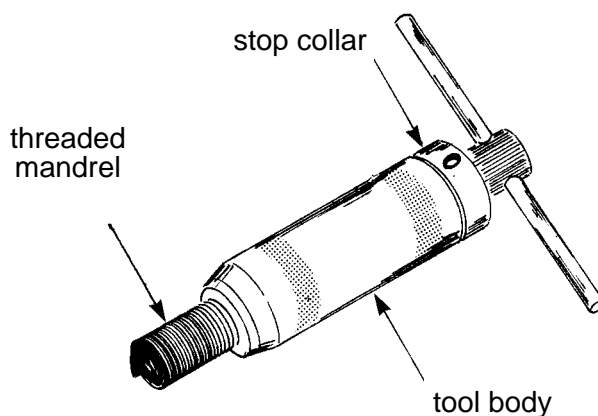

Figure 6 - 535 Series Installation Tool
5.5.3 Install inserts using 535 series tools (see Figure 6) as follows: